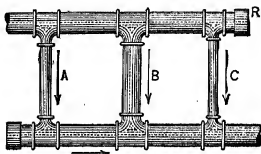

FIG. 40. Pipes *A*, *B* and *C* are connected in parallel.
**19. Parallel Circuit. Voltage.** Suppose, as in Fig. 40, we should join two main pipes *R* and *S* by means of three parallel pipes *A*, *B* and *C*. All the parallel pipes lie be-
**20. Parallel Circuit. Current.** Turning again to Fig. 40, it is seen that, since the pipes  $A$ ,  $B$  and  $C$  are not joined in series, they are independent of one another, and do not have to carry the same current. In fact, it is very evident that the largest pipe will carry the largest current and the smallest pipe the smallest current. Water and electricity do not take the path of least resistance. They take all paths. Where the path is of small resistance, a heavy current flows. Where there is a path of large resistance, a small current flows. But the water or the electricity is sure to make use of both the low resistance and the high resistance paths and force as much current as possible through both. The total current that flows through is merely the sum of the currents in the separate paths.
Or, referring to Fig. 40, it can be seen that the more pipes there are connected in parallel between the main pipes  $R$  and  $S$ , the easier it is for the water to get from one main pipe to the other. Hence the smaller the resistance between the main pipes.